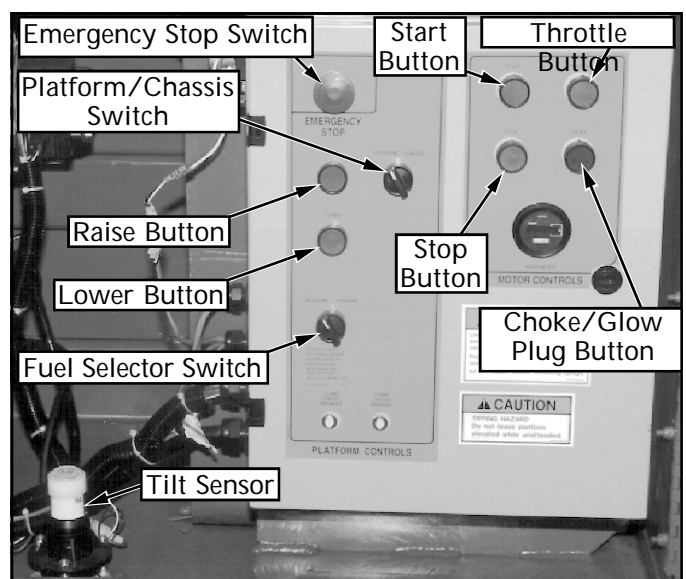

Figure 1: Chassis, Left Side
9. Place chassis and platform emergency stop switches in the ON position (Figure 1 & 2) by pulling the buttons out.
10. Verify platform/chassis switch is on **PLATFORM** (Figure 1).
tilt sensor (Figure 1) off of level. The platform should only partially elevate and the tilt alarm should sound. If the platform continues to elevate and/or there is no alarm **STOP** and remove the machine from service until it is repaired.
1. With engine running turn the fuel selector switch (Figure 1) to the center position.